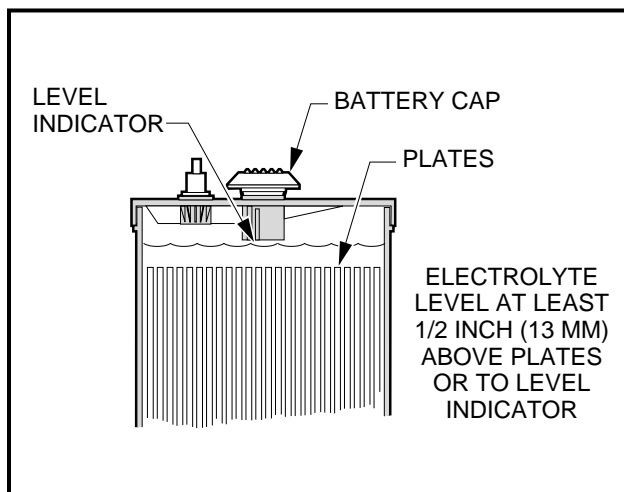

Figure 14 Electric Battery Electrolyte Level
2. The electrolyte level in the batteries should be checked weekly (**Figure 14**). Add water only after charging unless the electrolyte level is below the top of the plates. In this case, add just enough water to cover the plates, charge and then check the level again. Never charge batteries if plates are exposed above electrolyte level. For best battery life, add only distilled water. **See following NOTE.**